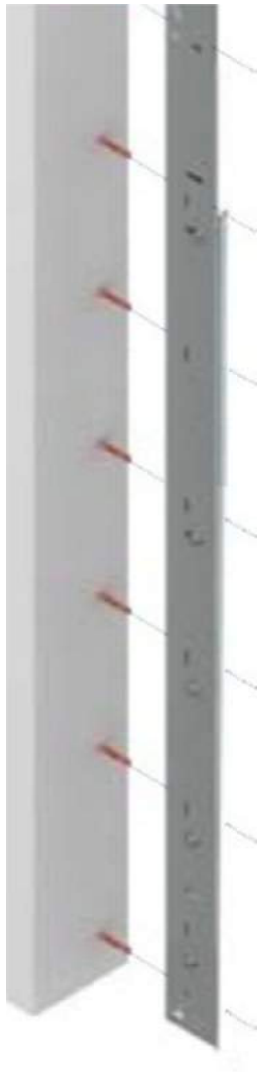

Figure 12
- 6** Fix the vertical angle onto the wall thanks to 10mm rawl-plugs and 8mm self-tapping screws. Adjust the amount based on the structure quality (see figure 12). Ensure 2 screws are strongly fixed at the very top, through the top bracket (see figure 13).